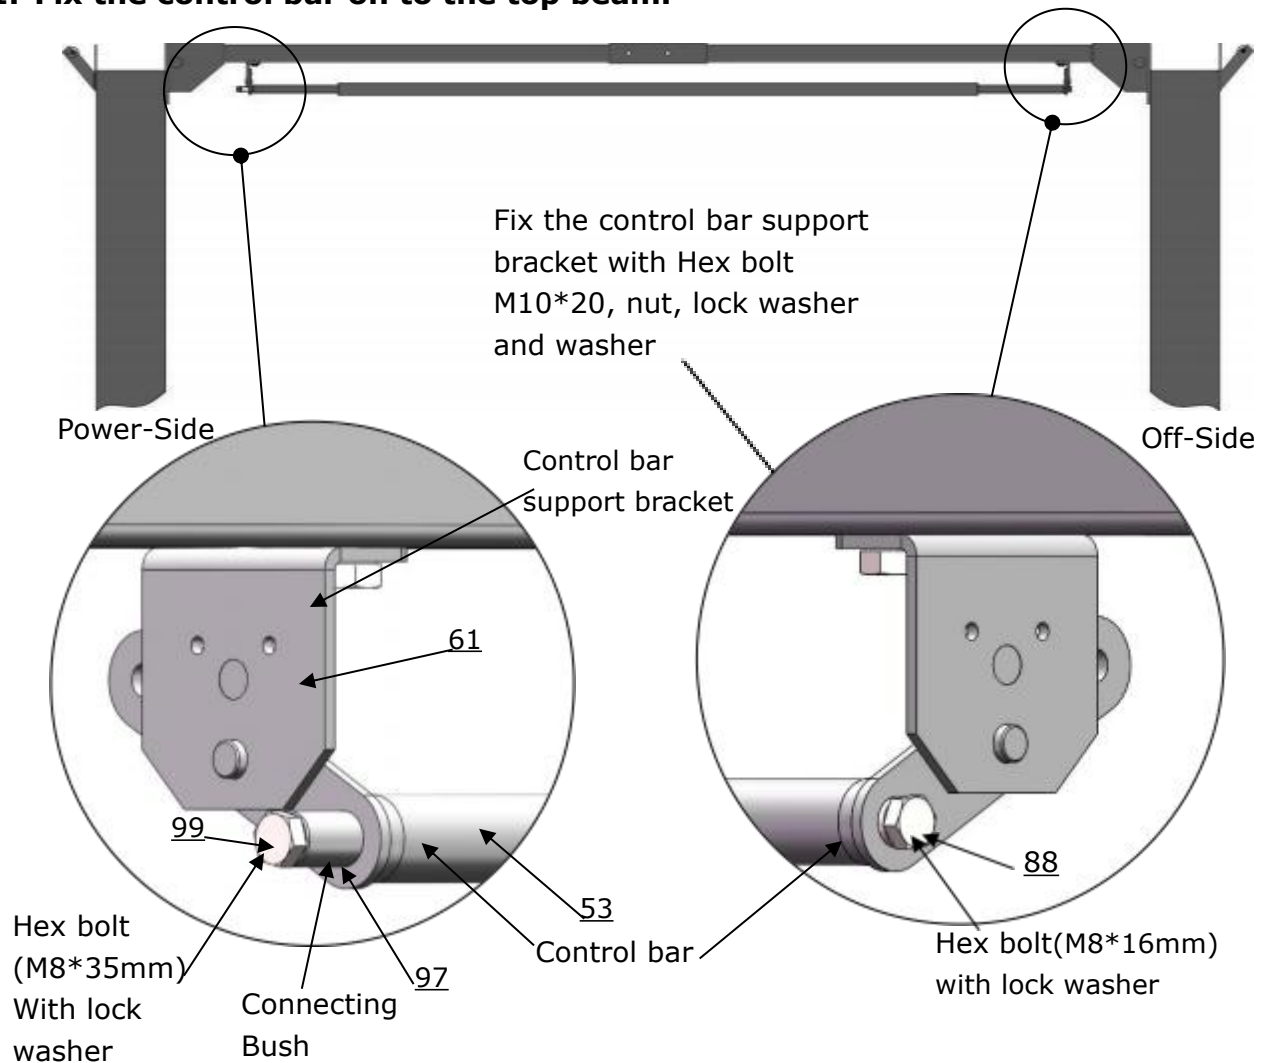

Fig.28
I. Installing the limit control bar and limit switch (See Fig. 28).